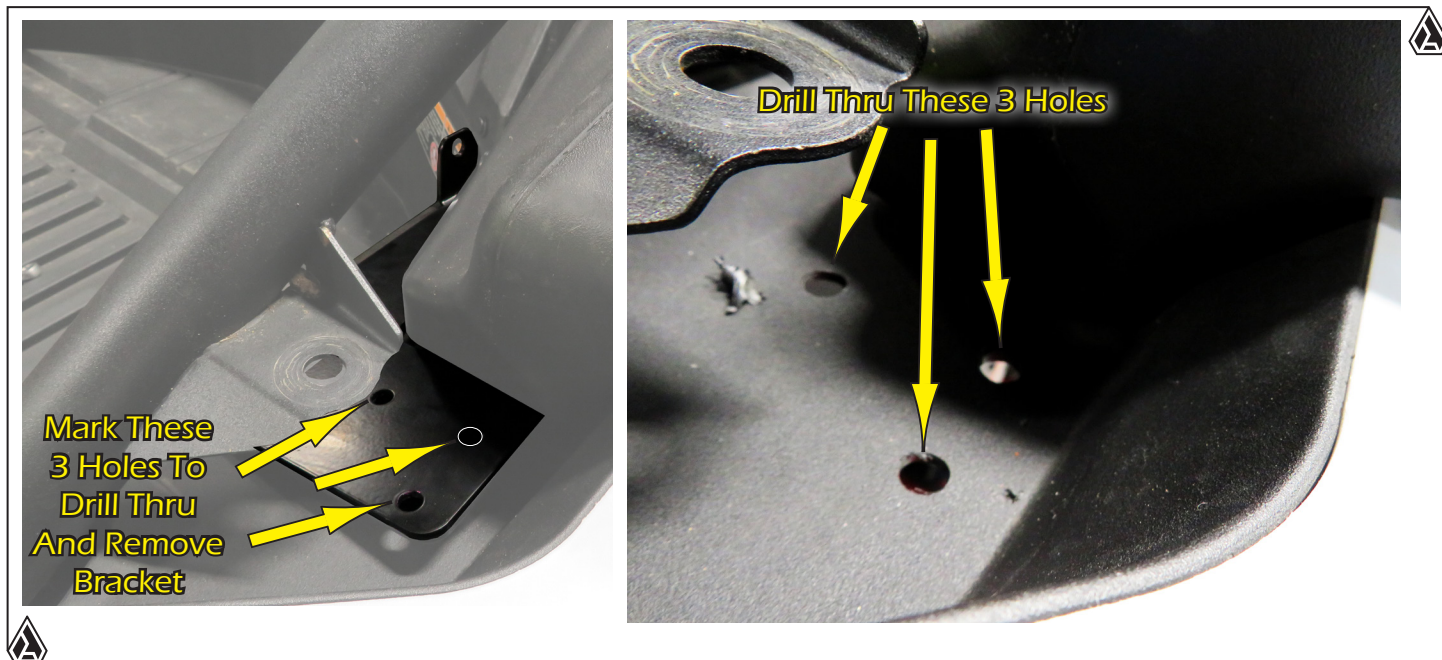

FIG.5
5. Once the bracket is snug down, now mark the hole centers of each of the 3 holes, and remove the bracket so you can drill the 3 holes thru. **See Fig.5.** You will need a 10mm drill bit to do the job. And the finished holes should look like the ones also in **Fig.5.**